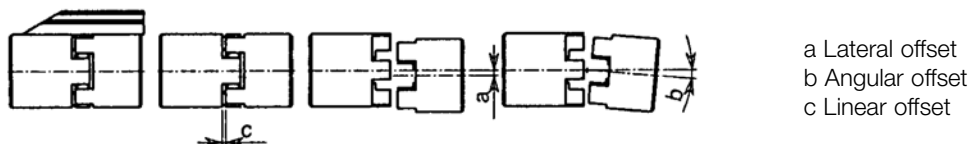

Fig. 2 Measuring points for tolerances of the coupling alignment
1. Place the pump in position, while ensuring that the flow direction that is marked by arrows on the flanges is correct, see Fig. 2, page 19.